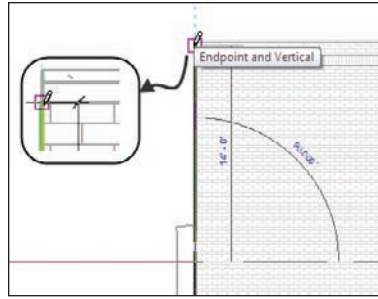

FIGURE 3.45 Drawing another line from Level 3 to the bottom of the parapet
10. Now, draw the line straight up the wall to the top. Make sure you do not snap to the top of the parapet. The point you want is to the top of the brick, as shown in Figure 3.45. (All you are doing here is sketching the profile of the wall.)